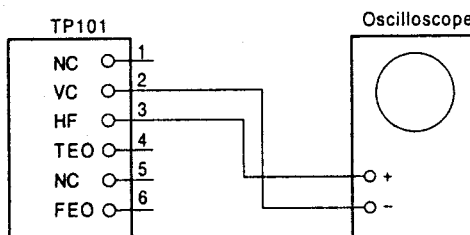

Fig2
7. Press TRACK button ("03" is displayed), also, press PLAY button. HF signal can be observed with the connection below. (Fig2)